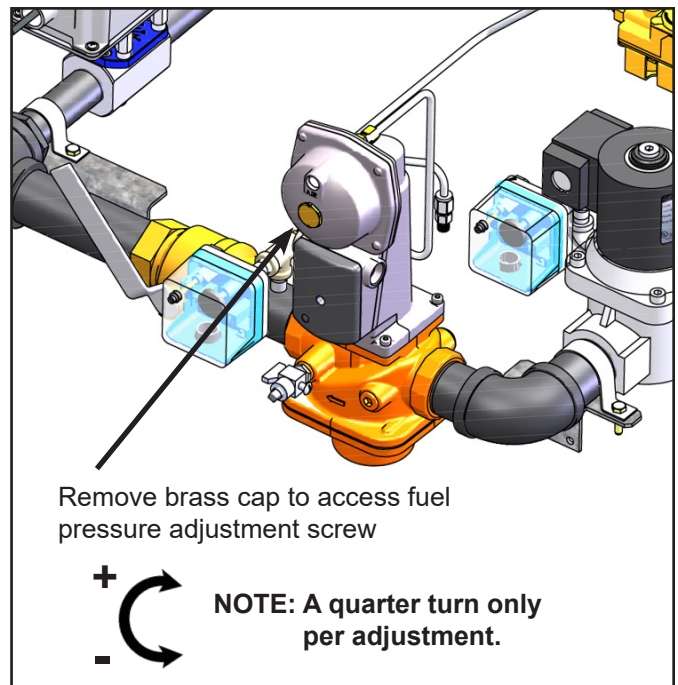

Figure 51. Fuel Pressure Adjustment Screw
2. Locate the pressure adjustment on the Pressure Regulating Gas Valve by removing the brass cap at the top front of the unit. See Figure 51
8. If needed, adjust the fuel pressure adjustment screw (See Figure 51) to obtain a **Hi-Fire CO₂ measurement of 9.0% +/- 0.2%.**